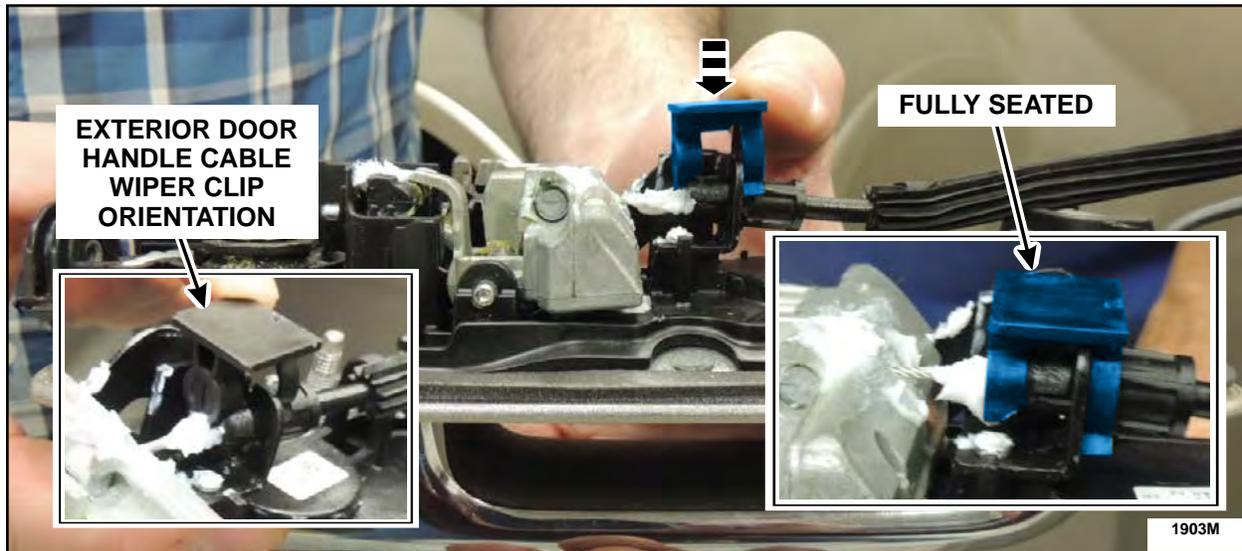

FIGURE 52
23. Install a *new* handle cable wiper clip on the exterior door handle cable end. See Figure 52.